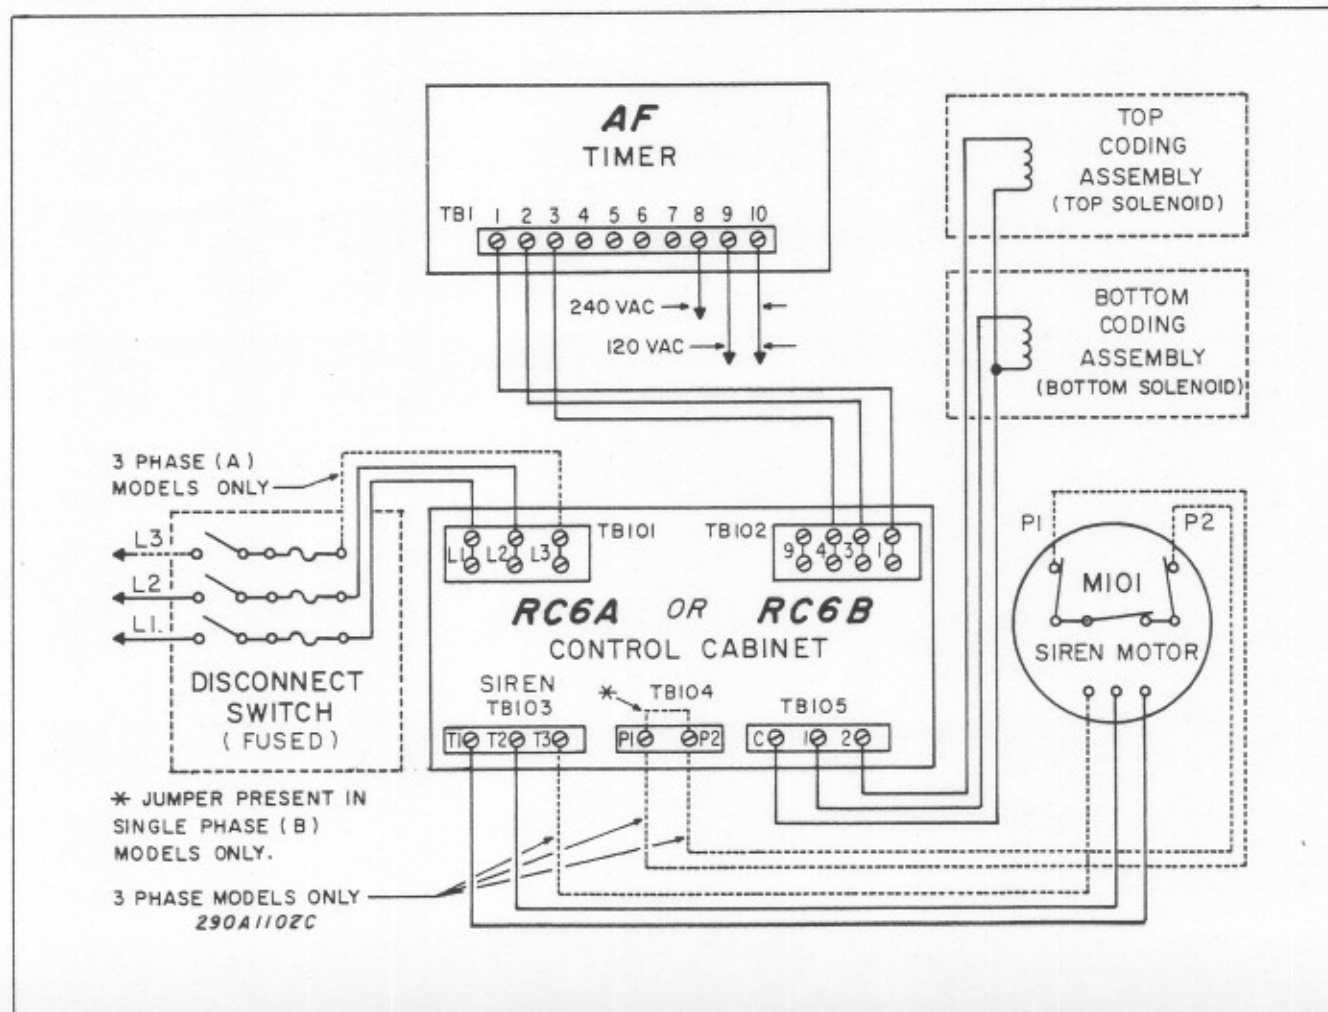

Figure 3-7. Model 3T22 Electrical Connections.
The power and control circuitry of a typical Model 3T22 installation is shown in figure 3-7. The schematic diagram of the Model RC6 Control Cabinet is shown in figure 5-6.
To connect the control cabinet and siren to the power source and control circuitry, proceed as follows (see figure 3-7).
9. Three phase (A) models only. Route two AWG 12 insulated wires from P1 and P2 on TB104 to P1 and P2 in the junction box on the side of the siren motor.
12. Install the AF Timer (see figure 3-7) 3-7). If it is desired to operate the timer from remote pushbuttons, install them at this time also. If the length of the wiring between the pushbuttons and the timer or the timer and the control cabinet exceeds 2,000 feet (610m) install an SPST telephone relay, such as the Federal Model TRC\*1020. If it is necessary to install one or more telephone relays, a 48Vdc power supply, such as the Federal Model PS Power Supply must be installed. This is necessary because the timer does not supply the 48Vdc required for the operation of the relay(s). The telephone relay(s) and power supply are NOT necessary when the length of the control lines is less than 2,000 feet (610m). It is recommended that all control wiring be routed through conduit.